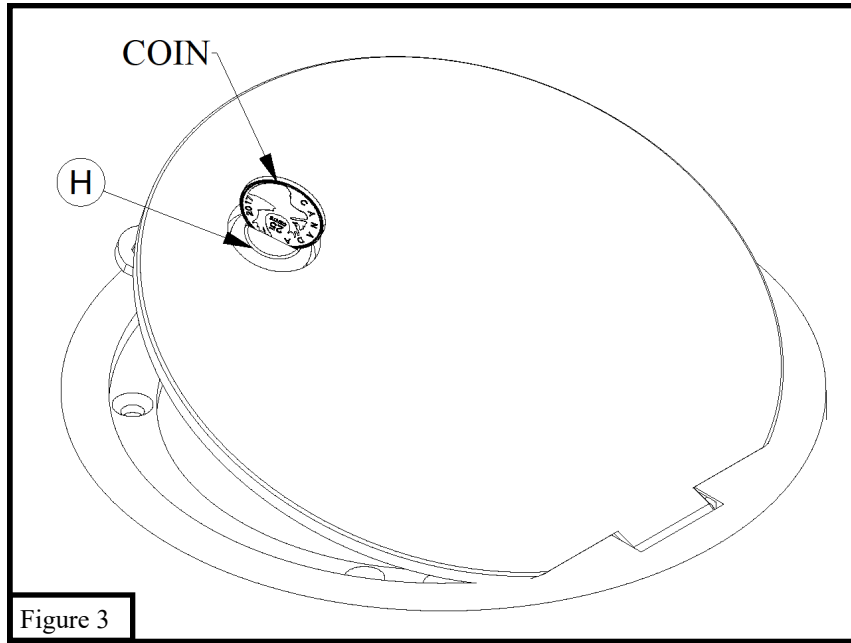

Figure 3
15. Attach *Hinged Floor Plate* (B) to wood floor using the 4 #10 X 1" *Wood Screws* (E) provided. It is best to drill a small pilot hole into the wood to avoid cracking.
16. After allowing 2 hours for grout to set, remove the 4 #10 X 1" *Wood Screws* (E) then remove all hardware holding the *Hinged Floor Plate* (B) to the socket assembly. This allows the wood floor to move independent to the socket when humidity changes in the gym
17. Re-install *Hinged Floor Plate* (B) to floor using #10 X 1" *Wood Screws* (E).
18. If you chose VB23LK, VB26LK, VB27LK or VB23LK-CV socket with lockable floor plate, the *Locking Device* (H) can be operated with a coin or similar flat object. See Fig 3.